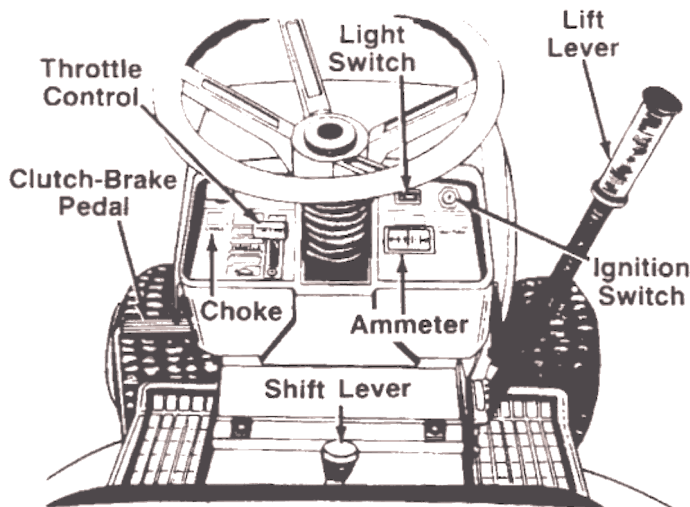

FIGURE 9.
The throttle control is used to regulate the engine speed. To get maximum efficiency from cutting, the throttle should be in the FAST position when operating the mower. See figure 9.
The choke control is located on the dashboard and is operated manually. See figure 9.
The shift lever is located in the center of the console and has three positions, FORWARD, NEUTRAL and REVERSE. See figure 9. The clutch-brake pedal must be depressed and the lawn tractor must not be moving when shifting gears. Do not force the shift lever. Release the clutch-brake pedal slightly to line up the shifting collar in the transmission. Then try to shift gears.
Turn the key to the START position to start the engine. When the engine is running, let the key return to the ON position. To stop the engine, turn the key to the left to the OFF position and remove it to prevent accidental starting. See figure 9.
Push the light switch to turn on the lights. The lights will only operate when the engine is running. See figure 9.
The ammeter registers the rate of battery charge or discharge. The ammeter will register on the discharging side when starting the engine. It should register on the opposite side (charging) when the engine is running in the fast position until the battery is completely charged. With a fully charged battery or with the engine idling, the ammeter will not show a charge. See figure 9.
The clutch-brake pedal is located on the left side of the lawn tractor. Depressing the clutch-brake pedal part way disengages the clutch. Pressing the pedal all the way down disengages the clutch and engages the disc brake. See figure 9.
4. Set the throttle control in the FAST position. See figure 9.
6. Turn the ignition key to the START position. When the engine is running, let the key return to the ON position. See figure 9.